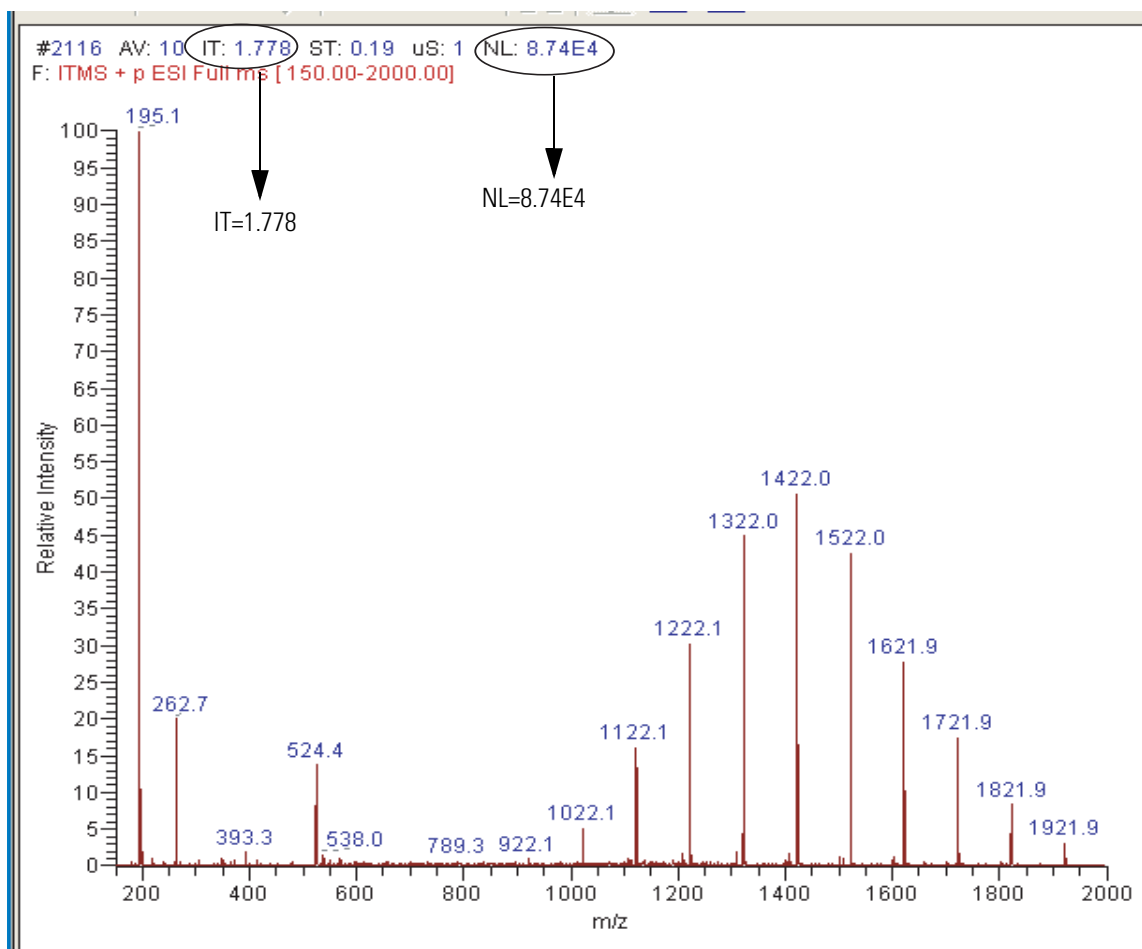

Figure 22. Spectrum view of the Tune Plus window, showing ionization time (IT) and normalization level (NL) of the calibration solution
- a. In the Spectrum view of the Tune Plus window, observe the mass spectra of the singly-charged ions of calibration solution. The ions are as follows. See Figure 22.
- b. At the top of the Spectrum view, notice the values for the ionization time (IT) and normalization level (NL). See Figure 22.